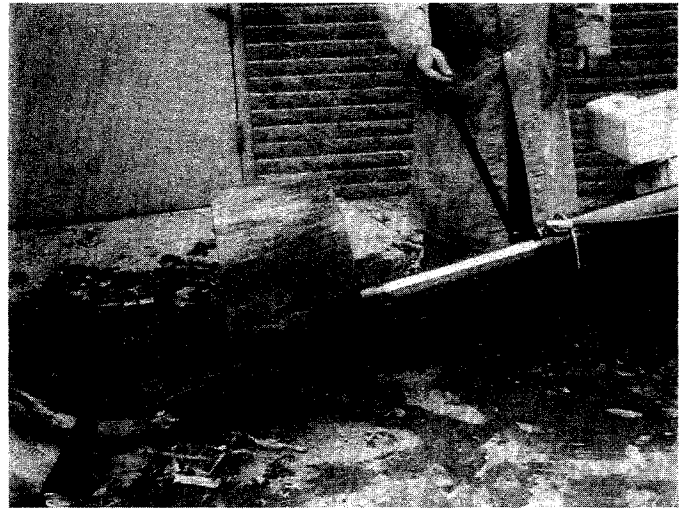

FIGURE 12
4. Remove your hand from the log and step behind the ram. See figure 12.